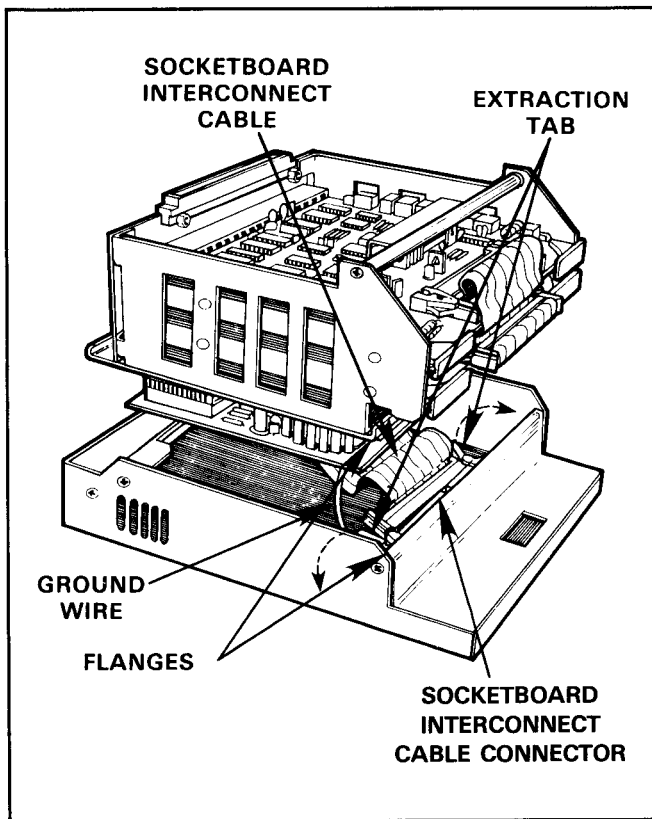

Figure 4-2. Socketboard Interconnect Cable Disconnect
5. Lift the card cage up until you can see the socketboard interconnect cable and its connector (figure 4-2).
6. Flip the extraction tabs out on each side of the connector (figure 4-2).
8. Disconnect the ground wire from the socketboard (see figure 4-2).
9. Plug the socketboard interconnect cable into its connector on the socketboard (figure 4-2).